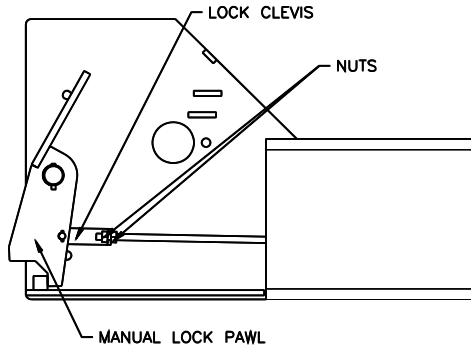

Fig 4 – Lock Clevis
- 3) Check the lock clevis to ensure it is secure and that the lock pawl is in the correct position as shown in **Fig 4**. Adjust the clevis if necessary.